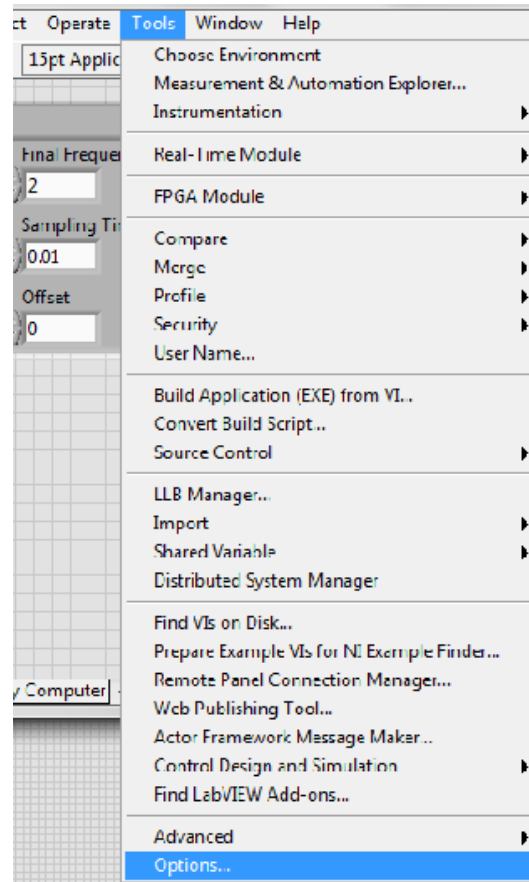

Figure A-1: Options menu
- 1) If you have trouble seeing the pop-up window, it's possible that your computer is blocking the server that opens up this VI. You can resolve this by going to Tools >> Options (Figure A-1)